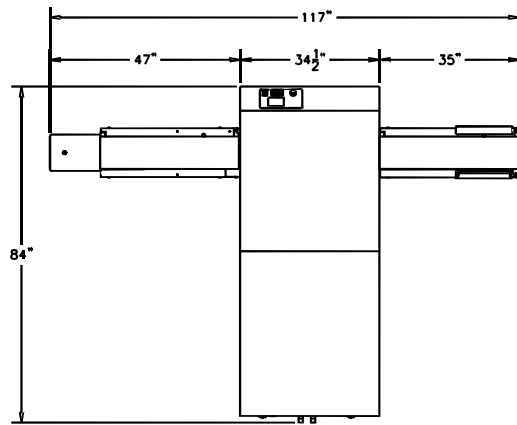

Figure 2-16. Stand Alone Space Claim
1. Make sure there is adequate floor space for this setup. Figure 2-16 illustrates how much space this setup will require.